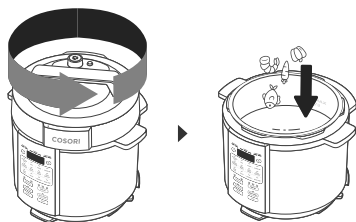

Figure 5.1
1. Twist the lid anticlockwise and lift to open. Add the ingredients to the inner pot. [Figure 5.1]